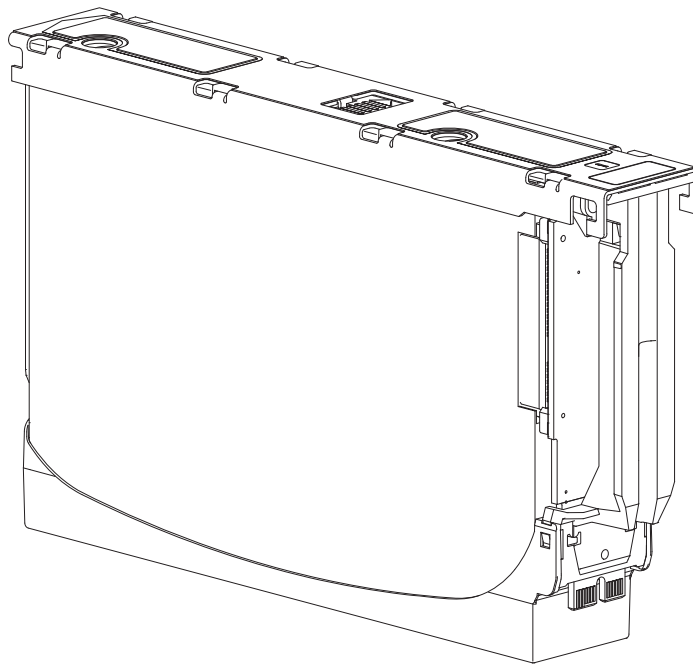

Figure 44 DDIC with 3.5" disk
Each disk drive is housed in a carrier that enables secure insertion of the disk drive into the drawer with the appropriate SAS carrier transition card. Figure 44 shows a DDIC with a 3.5" disk.
- See Figure 44 \(page 49\) for the DDIC holding the 3.5" disk